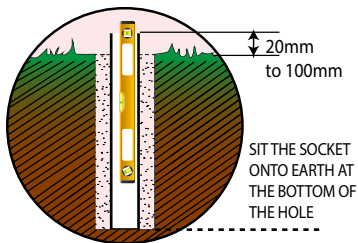

Fig 2a.
- 2a. For permanent installation, excavate a foundation, (see table for dimensions). Concrete the socket into place, use a level to check the socket is vertical and plumb sitting on the soil at the bottom of the hole and plumb checking at intervals as you infill the hole. **DO NOT SIT THE POLE ON CONCRETE.** Make sure there is minimum of 20mm and maximum of 100mm of socket left above ground. (see fig2a)